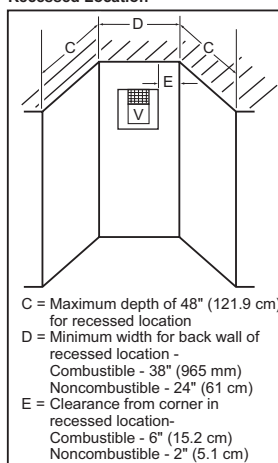

Figure 8 - Minimum Clearances for Termination Cap
- When locating termination cap, it is important to observe the minimum clearances shown in Figure 8, page 8.